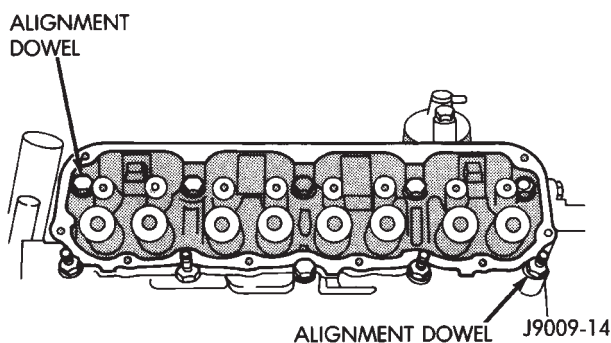

Fig. 34 Alignment Dowel Locations
(2) Install one dowel in bolt hole No.10 and the other dowel in bolt hole No.8 (Fig. 34).